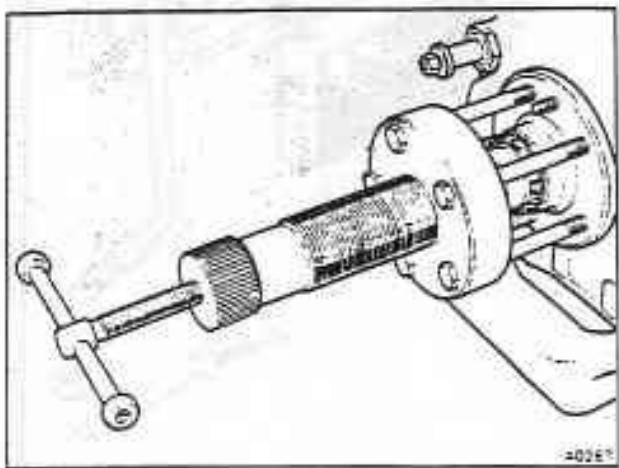

Fig. E10-4 Withdrawing the pulley driving flange
28. Using the special withdrawal tool RH 9765, withdraw the pulley driving flange (see fig. E10-4).